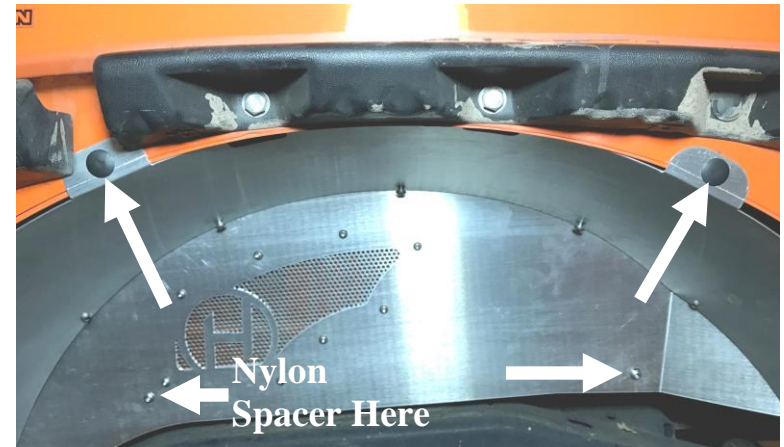

Figure 5
Step 6 – Install the assembled fender liner into the fender well and align two upper most holes on the outside of the fender well (See **Upper Arrows In Figure 5**). Install the 2 retainer clips back into the two upper holes.
Step 7 – Align two lower holes and install the supplied 1/4-20 button head screws and nylon lock nuts. The longer 1/4-20 x 3/4” screw will be used with 1/4” long nylon spacer. The nylon spacer will be installed on the backside of the fender liner in the hole closest to the ‘H’ cutout. This will take up the gap between the fender liner and the body. (See **Lower Arrows In Figure 5**)